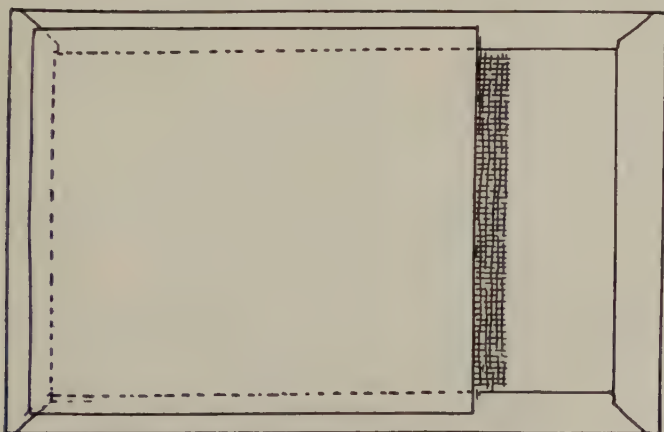

FIG. 77—FINISHED EASEL WITH LINING PAPER GLUED TO UNDER SIDE, COVERING REVERSE SIDE OF BOARD
13. Now glue off the piece of easel paper for lining out (piece is $4\frac{1}{8}'' \times 4\frac{3}{8}''$) and mount it solid to the back of the easel board. (Fig. 77.)